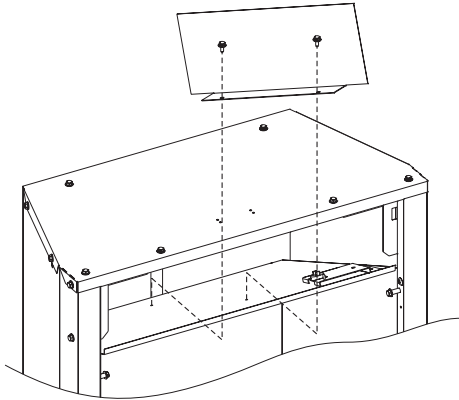

Figure 30
30. Attach rear log support to inner casing with three (3) 10 x 1/2" screws from step 4.
31. Place and align blower diverter on top of inner casing. Attach deflector to top of inner casing with two (2) 10 x 1/2" screws. See Figure 30.